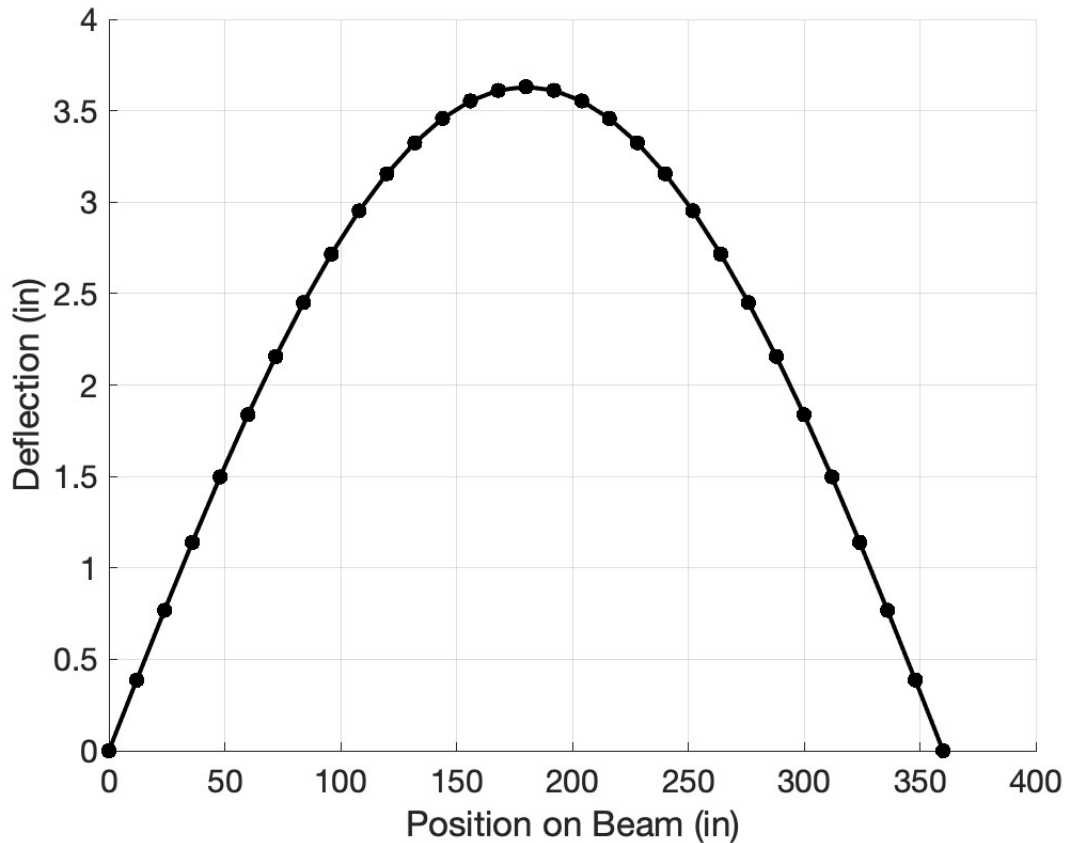

Figure 2: The deflection in inches of a uniform beam of length 360 vs the position on the beam (inches).
5.1 Code for Figures 2 and 3 in task set B problem 4